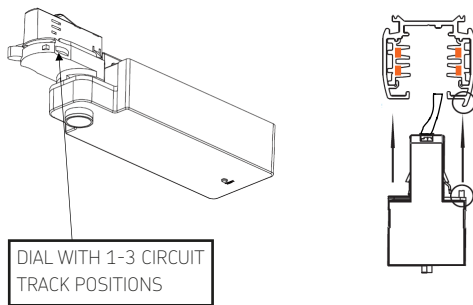

Fig. 1
- Adjust the dial on the side of the adaptor which can be altered for 3 circuits dependant on wiring of the track (1-3) (see Fig. 1)